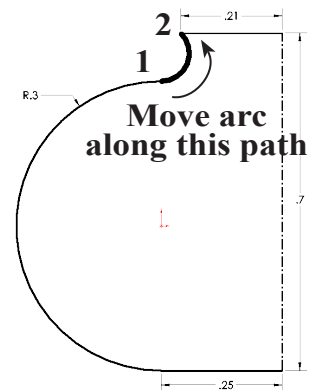

Fig. 6
- Step 1. Click **Tangent Arc**  (S) in the **Arc flyout**  on the Sketch toolbar.
- Step 2. Draw an arc between the Position 1 and Position 2 in **Fig. 6**.